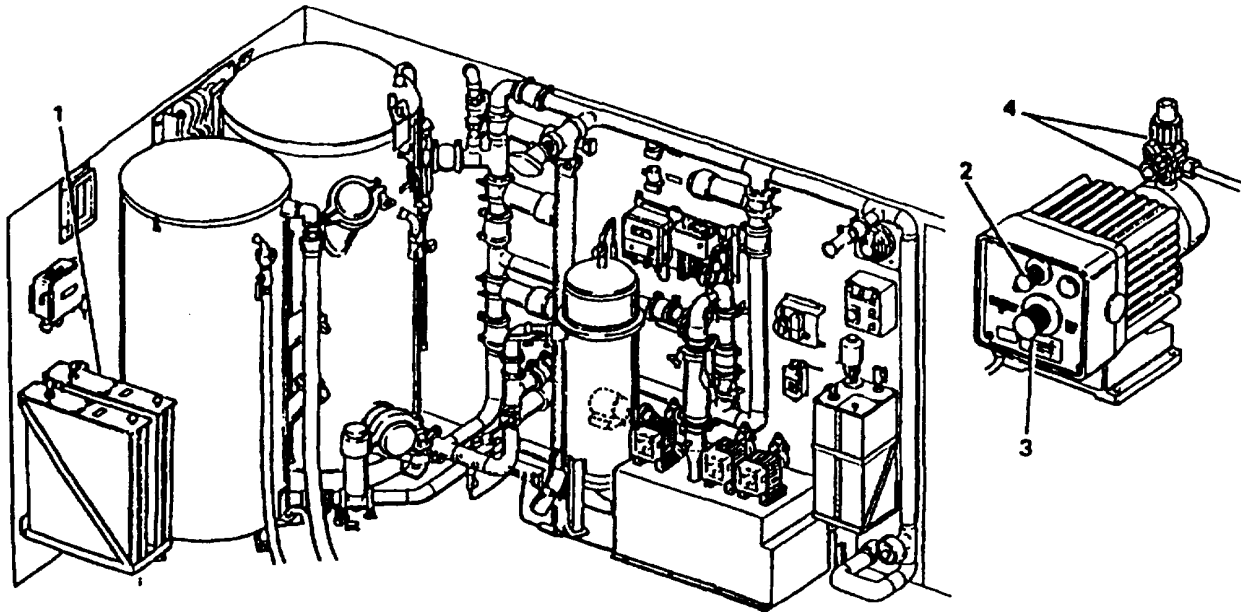

Figure 2-45. Sequestrant Set-Up
(2) Sequestrant Set-Up (Figure 2-45).